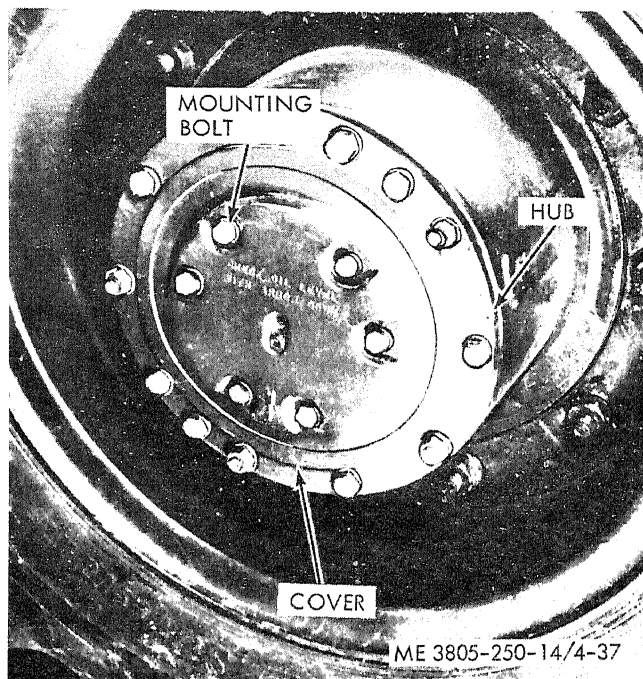

Figure 4-37. Planetary cover.
(1) Remove bolts securing the planetary cover (fig. 4-37) to the planetary spider. Discard the gasket.
(2) Install cover and a new gasket by reversing the removal procedure.